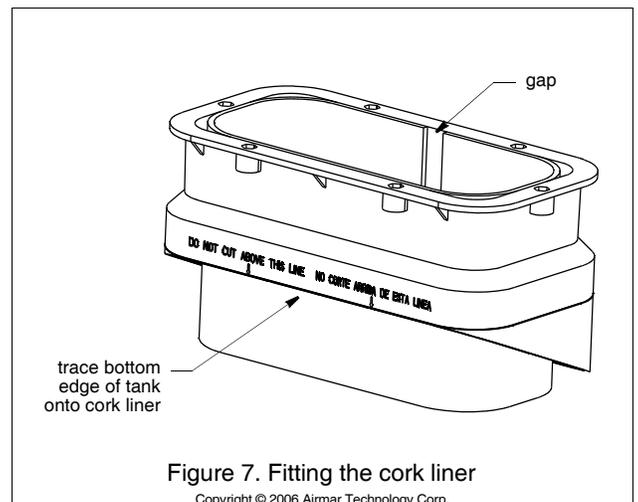

Figure 7. Fitting the cork liner
4. The tank is provided with a cork liner to reduce sound echoes. After the tank has been cut, wrap the cork liner around the *inside* of the tank (see Figure 7). Butt the sides of the liner along the center of the tallest side. *Note: There may be a gap between the edges which will not affect performance.* Push the cork liner up against the step on the inside of the tank. Trace the bottom edge of the tank onto the liner.